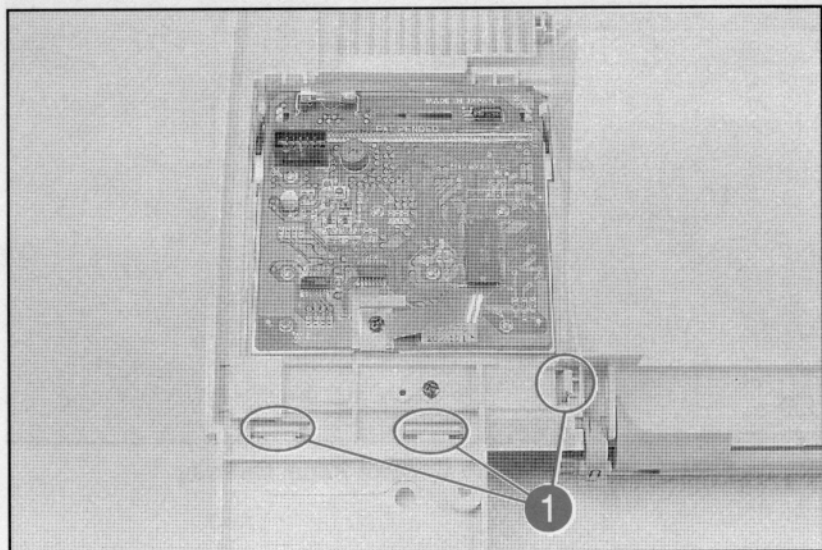

Figure 6-21 Control Panel Latches
- 3 Release the (3) latches that contain the Control Panel (see Figure 6-21, callout 1).